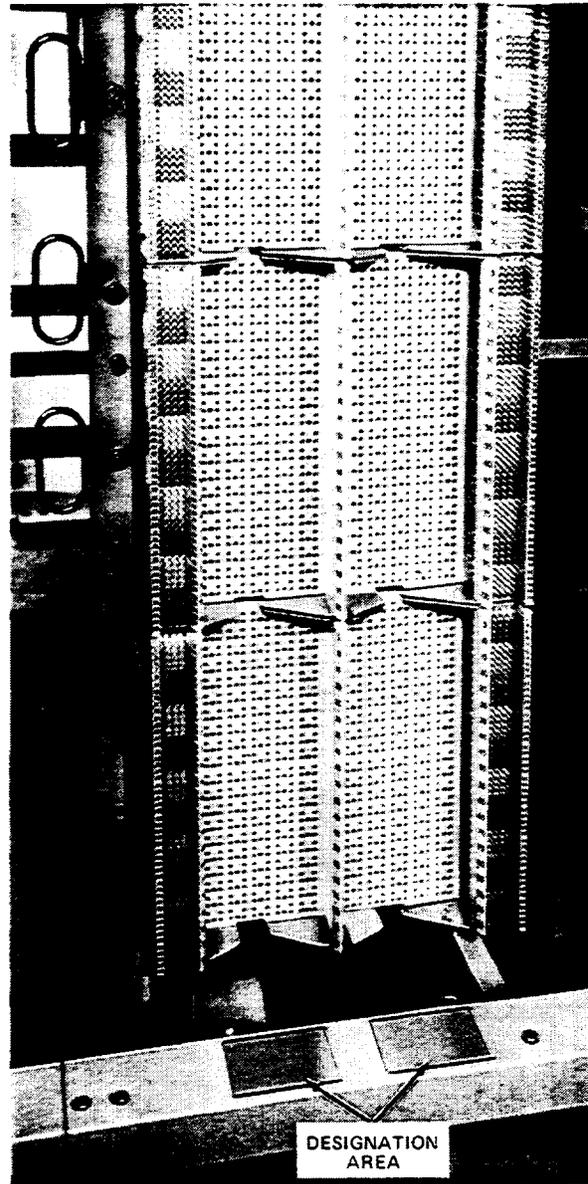

Figure 4—Guardrail/Designation Area
2.10 Another aspect resulting from the bivertical/309-type connector arrangement on the LPCDF (low-profile conventional distributing frame) or the LPDPF low profile double sided protector frame is the relocation of the designation board. The framework has been redesigned to include a combination guardrail/designation area (Figure 4). The area previously utilized for the designation board is therefore available for the 309-type connectors.